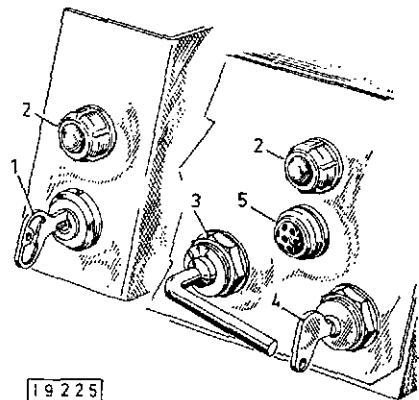

Fig. 4
3. Insert starter key 1 (Fig. 4), turn clockwise to first detent and check that charging pilot lamp 2 lights up. Push key in deeper and turn farther clockwise against spring pressure; release key as engine starts firing.
2. Operate stopping lever 2 on the injection pump until the engine comes to a stop, whereafter the charging pilot lamp 2 (Fig. 4) will light up again.
3. Turn starter key 1 anti-clockwise to detent and pull out or, in the case of design with heater plug/starter switch, pull out switch box key 4; this will cause the charging pilot lamp 2 to go out.
Pull start/stop lever vigorously beyond spring detent 3 to fixed stop until engine is stationary. When pulling start/stop lever slowly, there will again be a brisk speeding up of the engine before it comes to rest. This phenomenon is without importance; it can be moderated by a vigorous pull at the start/stop lever. Check that charging pilot lamp 2 (Fig. 4) lights up again.
1. Disengage driven equipment. 2. Place speed control lever at quarter speed; in the case of engines with distributor injection pump, with speed control lever in idling position, pull start/stop lever to first indent (2/3) and hold. 3. Insert switch box key 4 (Fig. 4) as far as it will go and check that battery charge pilot light 2 (Fig. 4) goes on. Turn key of heater plug/starter switch 3 (Fig. 4) to preheating position I and keep here for about 1 minute. Where a flame-type heater plug is provided, check that heater plug indicator 5 (Fig. 4) lights up brightly.